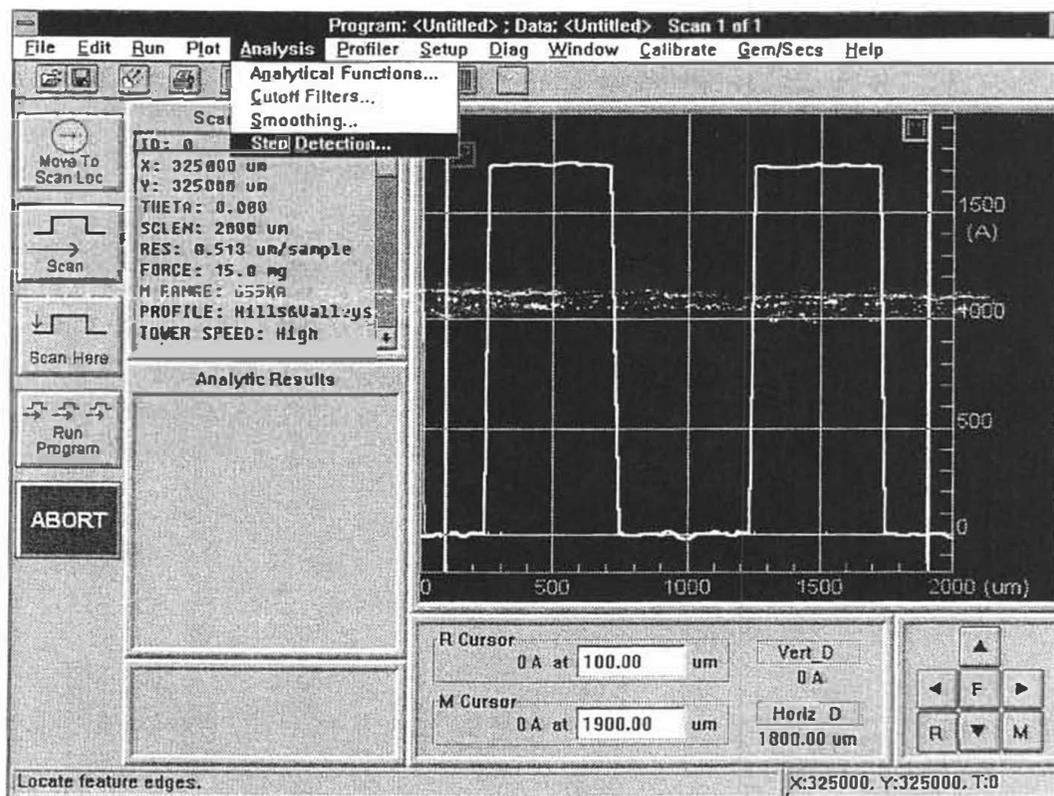

Figure E-3. Typical Scan of a Step
Step Detection is typically used for finding and measuring steps when performing multi-scan operations. It enables like features at multiple locations on multiple samples to be scanned with the step height measured automatically. Prior to using Step Detection in a multi-scan operation, it is recommended that a sample scan be created of the feature to be measured to aid in setting up the Step Detection parameters. Using the scan shown in Figure E-3 as an example of a sample scan, the following pages will demonstrate how to set-up and perform Step Detection on a scan data file.
1. With a scanned profile of multiple steps displayed on the data plot screen, click-on the Analysis Menu from the menu bar (see Figure E-3).